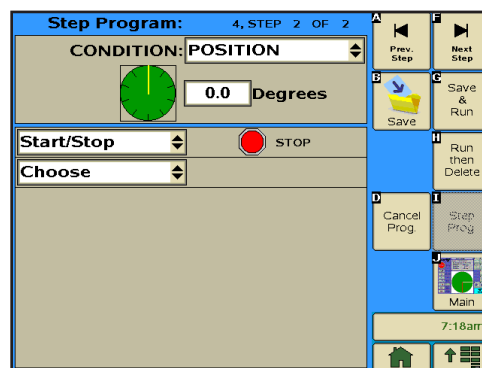

Figure 160-2
17. Program the position condition for this step. Refer to Figure 160-2.